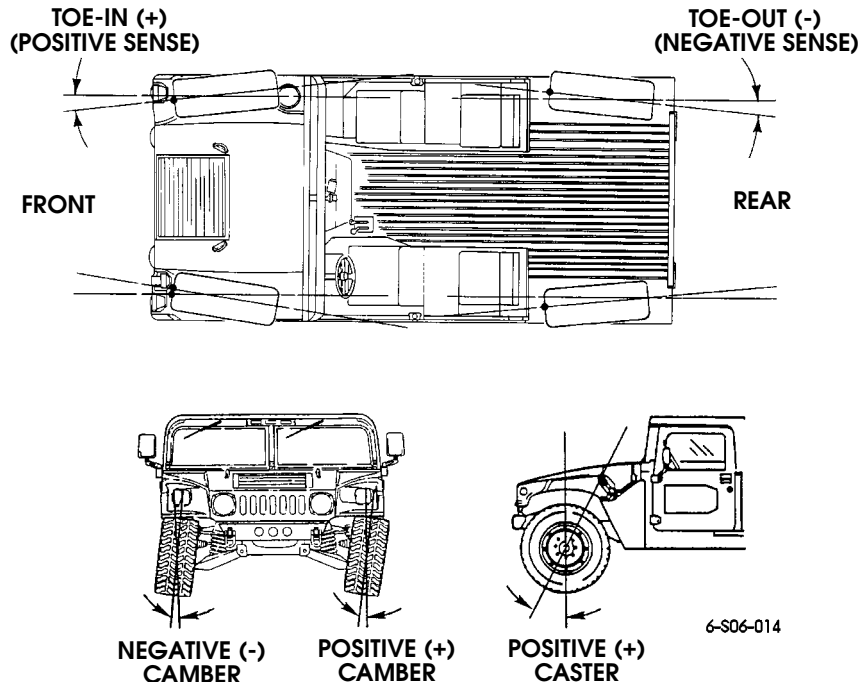

Figure 6-46: Wheel Alignment Information
4. Measure and record caster, camber, toe-in, and toe-out. Refer to alignment specifications (Figure 6-46).